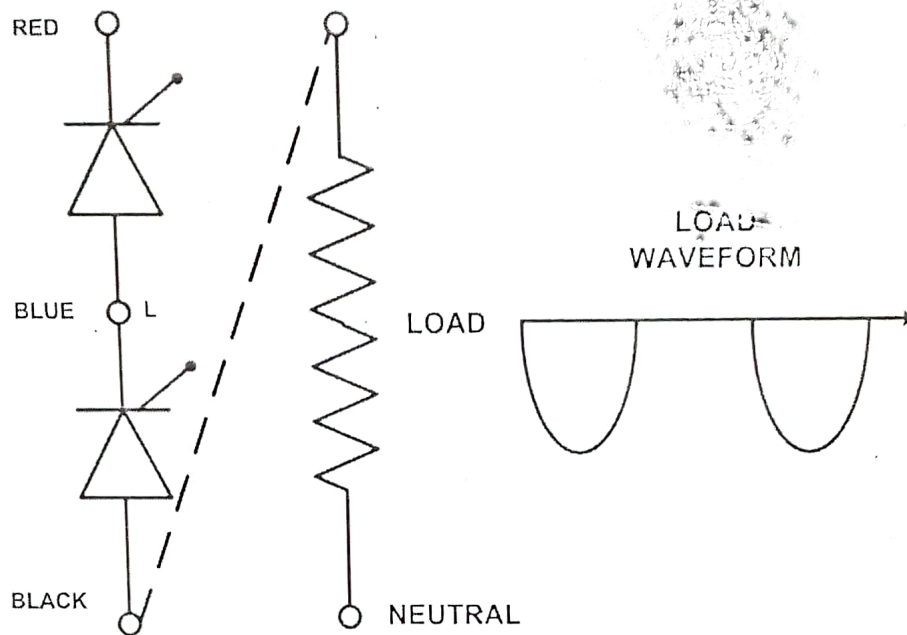

Figure 3
6. Connect another point of load to "BLACK" terminal for getting the negative half cycle.(Refer figure 3)